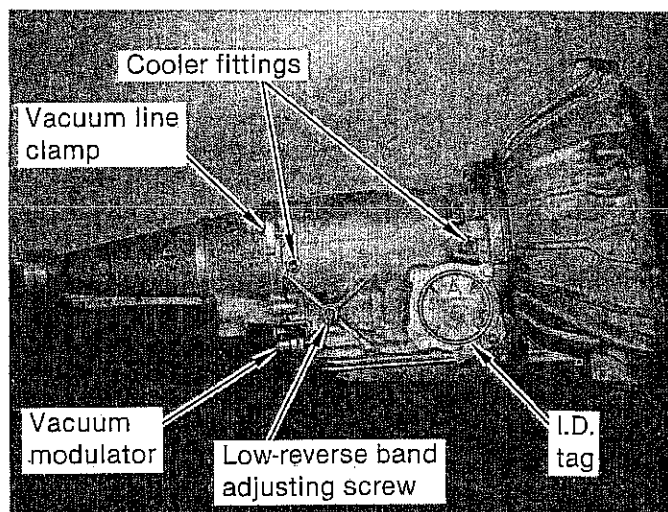
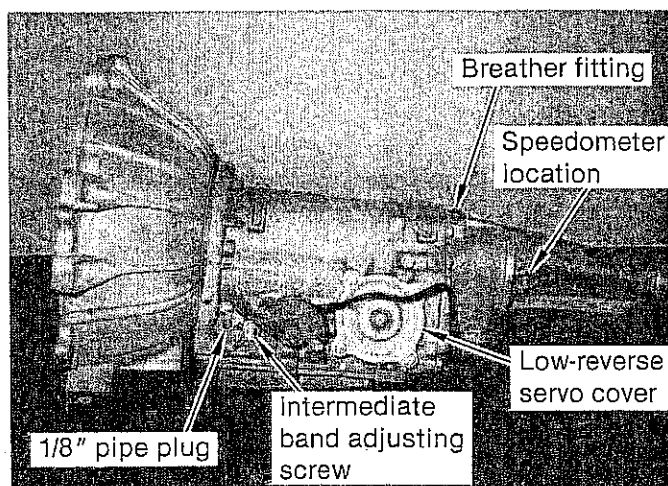
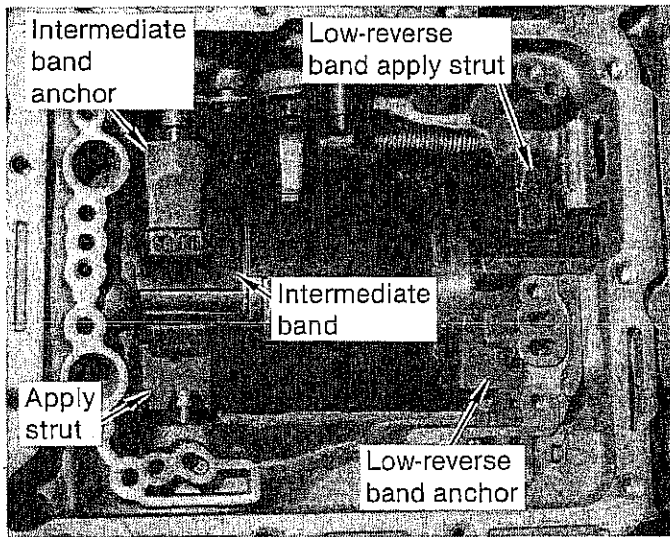

FIGURE 1
FIGURE 2
FIGURE 5
STEP 3. Loosen and disconnect oil cooler lines. Try to use a fitting wrench to avoid damaging the compression fitting nuts on stock oil cooler lines. (See Fig. 1)
kit will only work on full automatic model valve bodies. Where there are differences in disassembly procedures they will be so noted in the instructions. If you find it necessary to replace any transmission hard parts during TransKit installation, make sure to use the serial number stamped into the tag on the servo cover on the right side of the case just above the pan when you go to your Ford dealer. (See Fig. 1)
STEP 3. Loosen and remove the intermediate band adjusting locknut and screw. (See Fig. 2) Remove the band anchor and apply strut. (See Fig. 5) Loosen and remove the low-reverse band locknut and adjusting screw. (See Fig. 1) Remove the band anchor and apply strut. (See Fig. 5)
STEP 19. Remove one or two 1/8" pipe plugs from the case. Remove cooler fittings. Remove smog switch, if your unit is so equipped. (See Figs. 1 and 2) Put them in the oil pan.